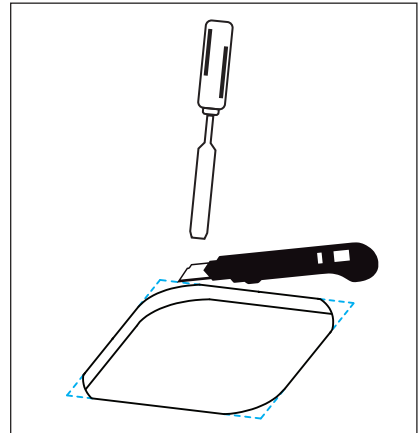

Fig.5
**Note:** For square trim installations, use a sharp utility knife to score wood, forming two square corners. Then, use a sharp wood chisel to remove the remaining material to the same depth (Fig.5).